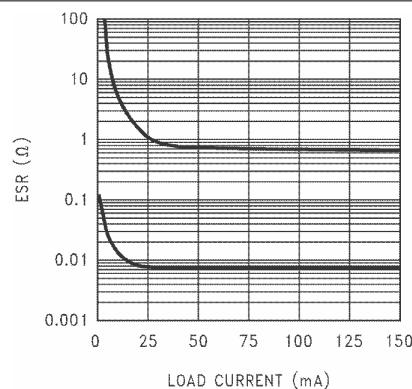
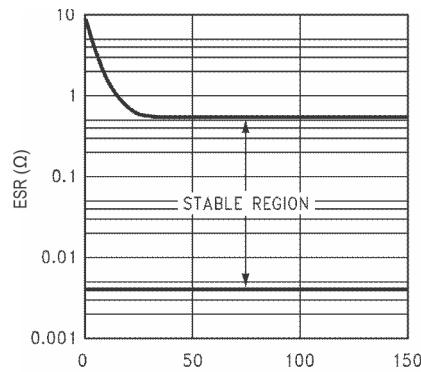

Figure 5-36. 2.2-μF Stable ESR Range for Output Voltage $\leq 2.3 \text{ V}$ for Legacy Chip
Figure 5-38. 2.2- μF , 3.3- μF Stable ESR Range for Output Voltage $\geq 2.5 \text{ V}$ for Legacy Chip
- ESR range: see Figure 5-36 through Figure 5-38